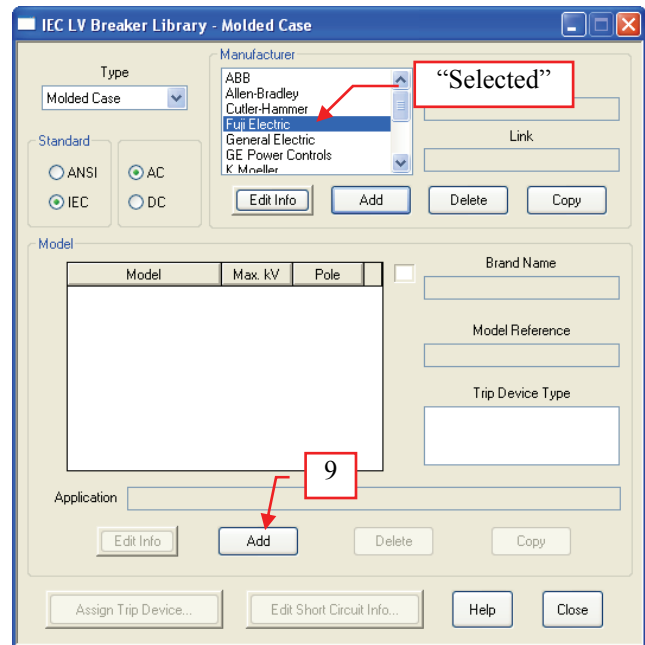

Fig. 8
9. With the “Fuji Electric” selected in the “Manufacturer” frame, click the “Add” button in the “Model” frame. See Fig. 8.